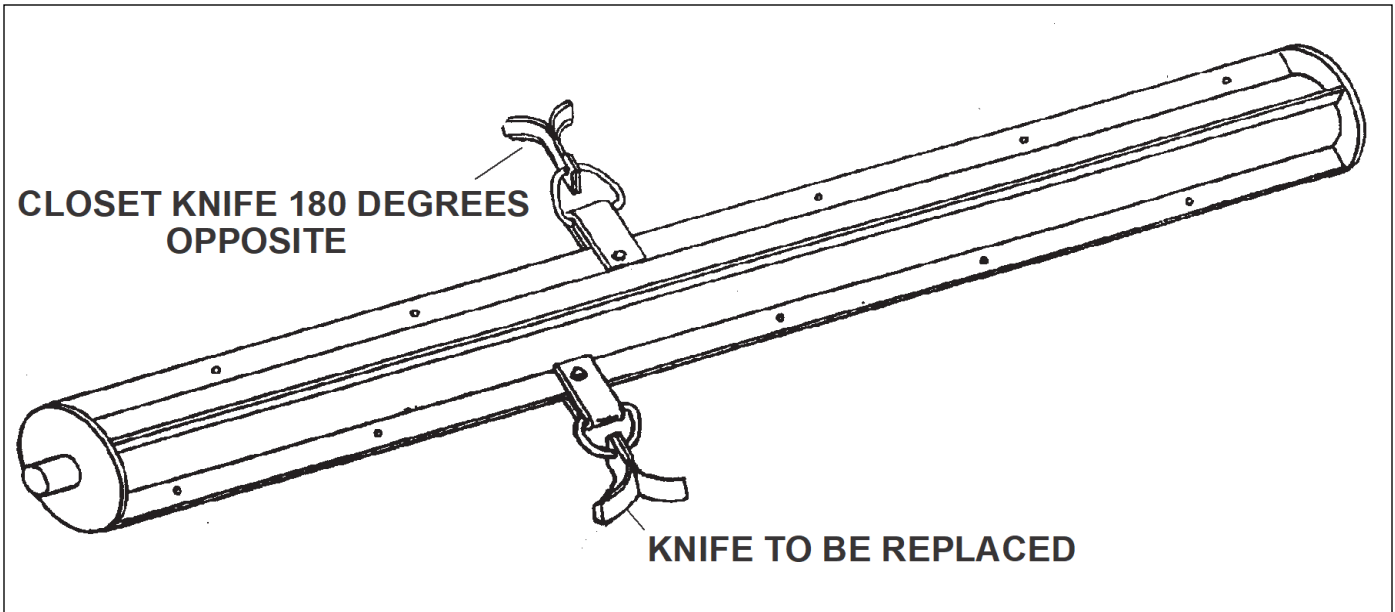

Figure 3-1: Knife 180 Degree Opposite
- **Never operate machine without a full set of knives. If one knife assembly is replaced with a new one, the closest one, 180 degree opposite must also be replaced with a new one. See Figure 3-1.**